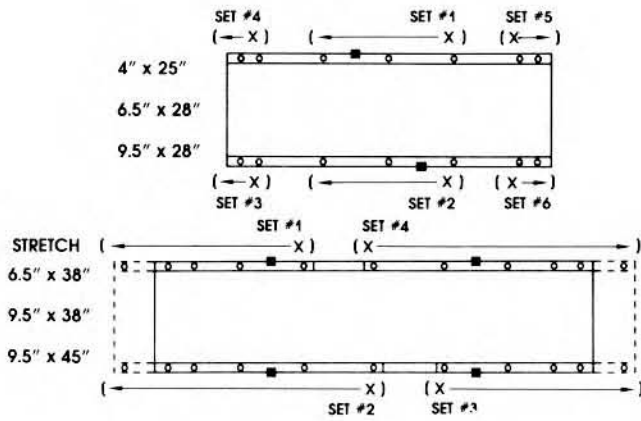

Figure 49
23.05 Sequence and Torquing procedure. Figure 49.